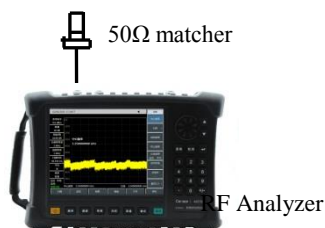

Figure 16-12 Settings for Test of Explicit Average Noise Level
- a) Connect the 50Ω matcher to the radio frequency input port of the instrument according to Figure 16-12.